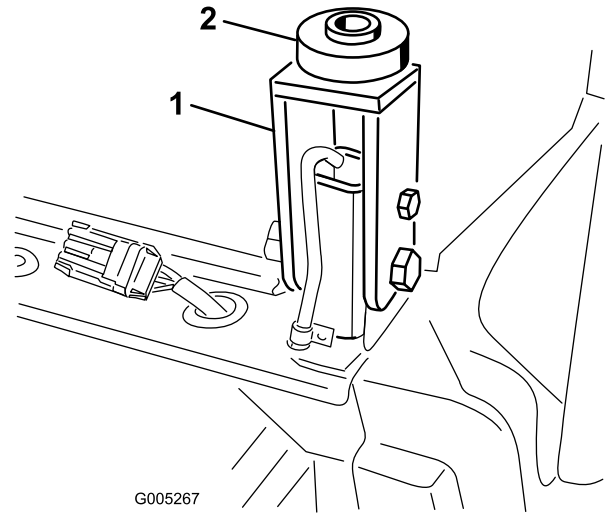

Figure 22
9. Insert a rubber mount onto each cab mount at the rear mounting locations (Figure 22).